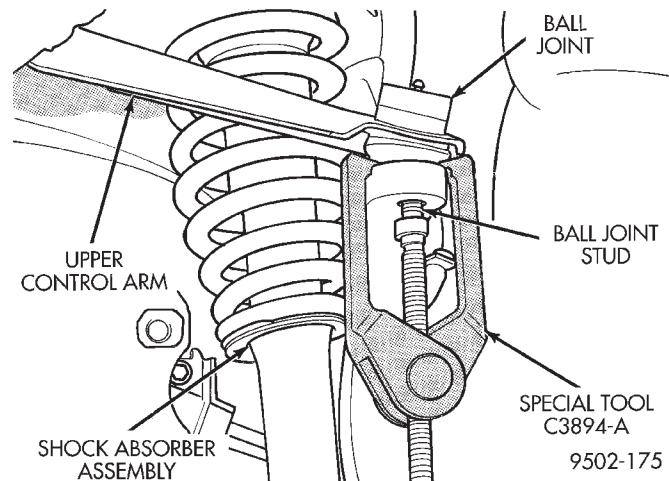

Fig. 71 Ball Joint Stud Removal From Steering Knuckle
(17) Remove the upper ball joint stud from the steering knuckle using Puller, Special Tool, C3894-A (Fig. 71).